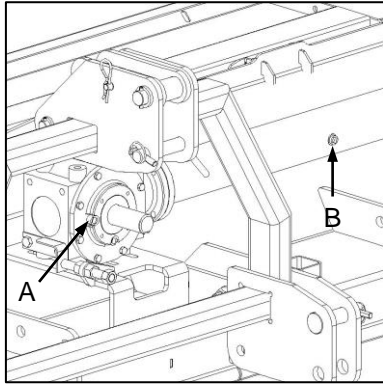

Fig. 7
- ✔ The gearbox (Fig. 7-A) and extension housing (Fig. 7-B) are equipped with filling ports. Check oil levels in both locations.
- ✔ Die ratkas (Fig. 7-A) en verlengomhulsel (Fig. 7-B) beskik oor olievulpunte. Olievlakke moet by albei punte nagegaan word.